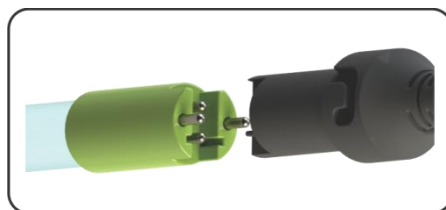

Figure 7. UV Lamp Connection
Step 14: You can now remove the UV lamp from its packaging being careful not to touch the lamp quartz with your hands. Again, the use of cotton gloves is recommended to avoid deposited oils on the lamp glass. Always hold the lamp by the ceramic ends. With the lamp outside of the reactor, affix the UV lamp to the lamp connector as shown in Figure 7.